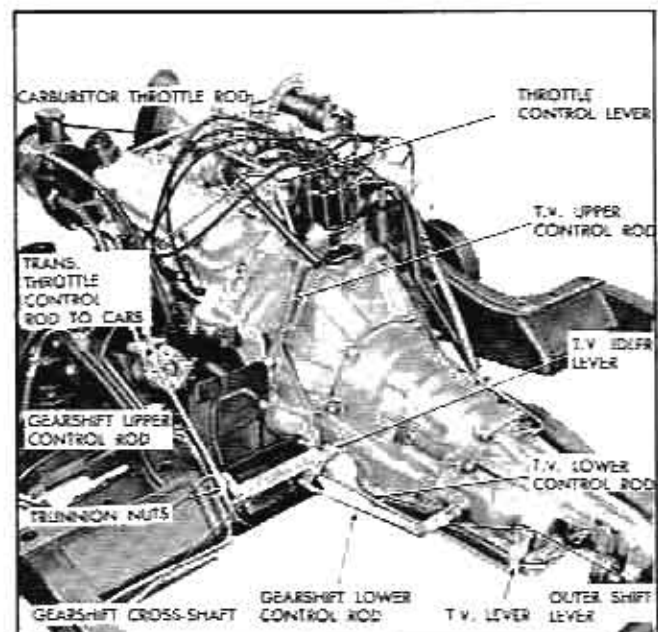

Fig. 35 Throttle Control Linkage
6. Push T.V. upper control rod downward until the outer T.V. lever is felt to touch end of travel (Fig. 35).
7. While holding T.V. upper control in this position, tighten upper and lower trunnion lock nuts finger tight (Fig. 35). Shorten T.V. upper control rod by backing off lower trunnion nut  $2\frac{1}{2}$  turns and tighten upper nut securely. Remove gauge pin.
1. Put upper shift control lever and transmission lever in park P position and, with the transmission outer shift lever trunnion nuts (Fig. 35) backed clear of the trunnion, pull the shift rod down toward the